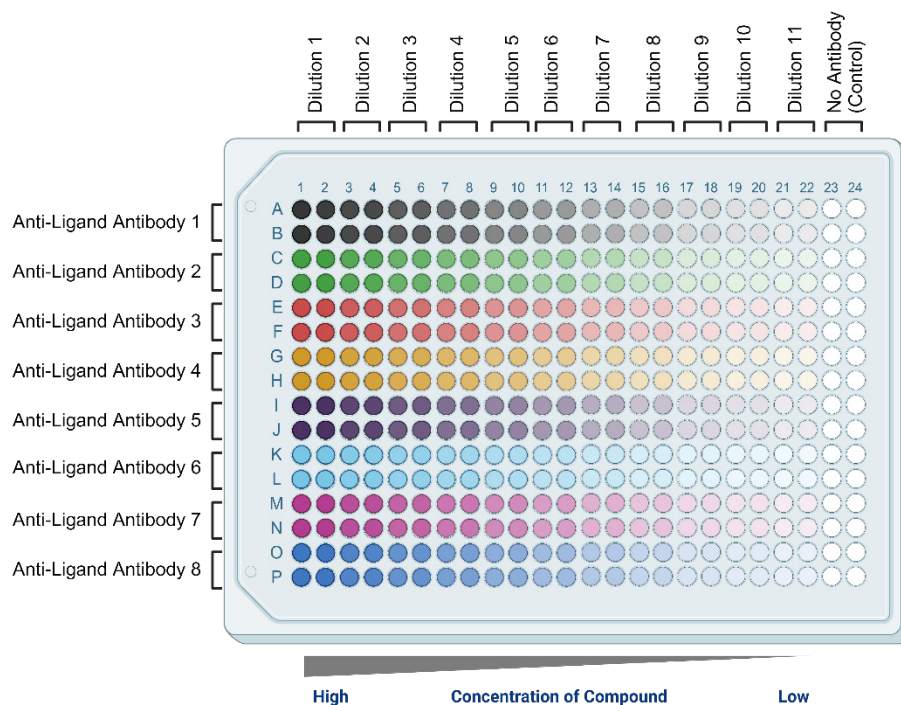

Figure 11. Assay Plate Map – Anti-Ligand Antibody
5. Using a 12-channel pipette, add 5 μ L of each 5X antibody/agonist serial dilution in quadruplicate into the designated compound rows of the assay plate (e.g., antibody/agonist 1, with Dilution 1 in rows A and B, Columns 1 and 2; antibody/agonist 2, with Dilution 1 in rows C and D, Columns 1 and 2). Repeat for the remaining compounds as indicated in the Assay Plate Map – Anti-Ligand Antibody (Figure 11).